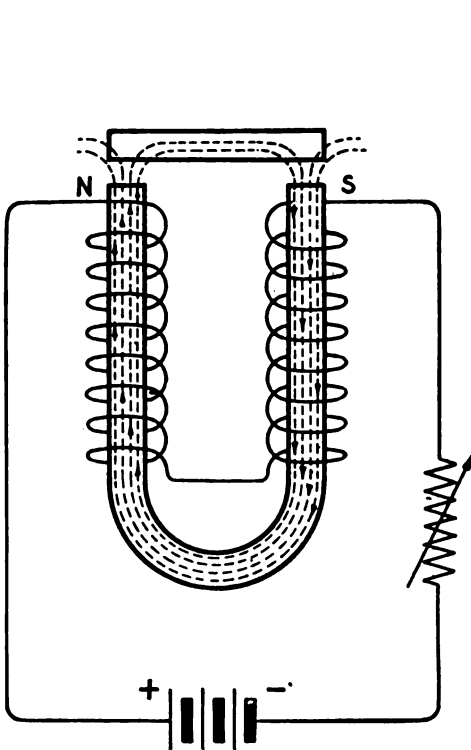
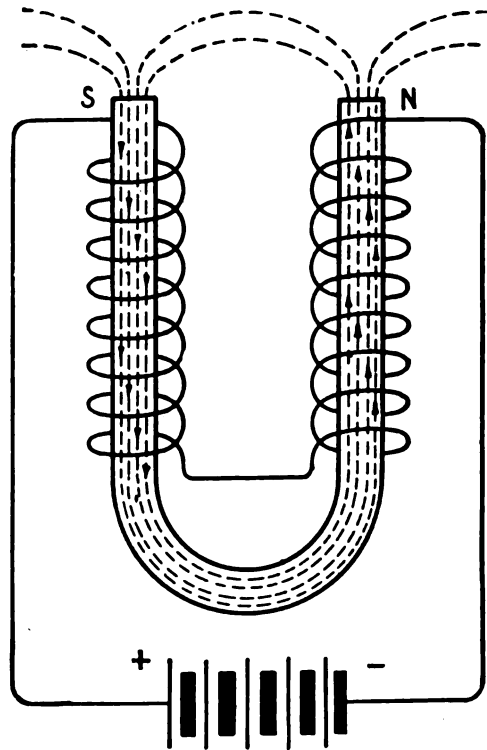

Figure 25
Figure 26
In Figure 25 a battery of primary cells is connected to the terminals of a horseshoe magnet with a small resistance coil connected in series. In Figure 26 the current flows in the reverse direction.
- (1) If the variable resistance in Figure 25 is carefully regulated, the strength of the magnetic field issuing from poles N and S will increase or decrease with the amount of current flowing.
- (2) If the current is reversed as in Figure 26, the polarity of the magnetic field will reverse accordingly.
- (3) If very high values of resistance are added at Figure 25, the current may be reduced to a degree that the magnet will barely attract the armature.
- (4) If a horseshoe of hard tempered steel be inserted in the windings of Figure 25 or Figure 26 in place of the soft iron core and allowed to remain for a few seconds, upon removal it will be found to be permanently magnetized.
- (5) An electromagnet may be employed for mechanical work such as lifting masses of iron or for exciting the magnets of a dynamo or motor, and owing to the fact that the strength of the magnetic field can be carefully regulated and moreover a much more powerful field obtained in this manner, the electromagnet is seen to have a distinct advantage over the bar magnet, the strength of the field of which is limited.